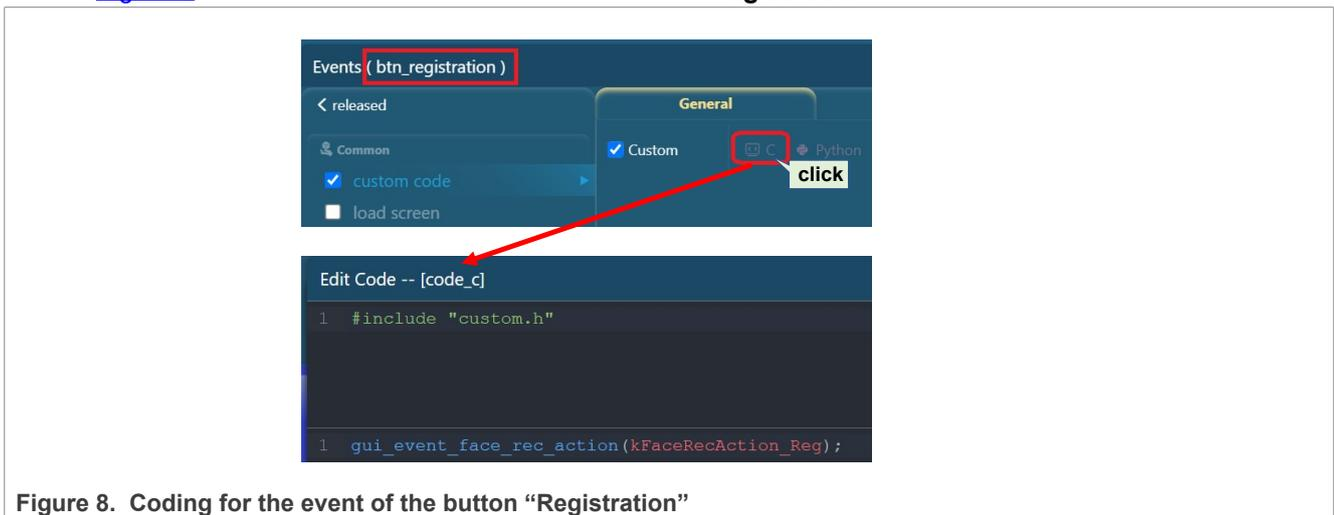

Figure 8. Coding for the event of the button “Registration”
- Figure 8 shows the code for the event of the button **Registration**: